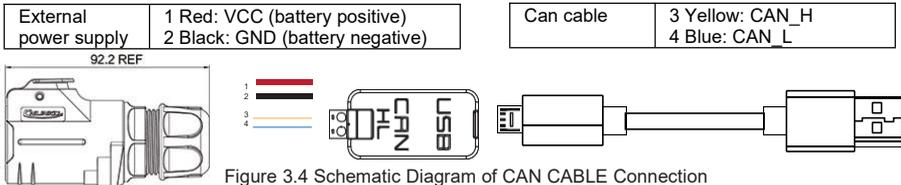

Figure 3.4 Schematic Diagram of CAN CABLE Connection
- Connect the CAN_TO_USB to the usb interface of the notebook. The connection diagram is shown in Figure 3.4.